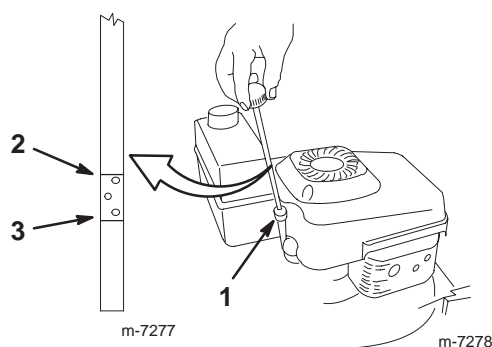

Figure 7
Before each use, ensure that the oil level is between the Add and Full marks on the dipstick (Fig. 7).
2. Clean around the dipstick (Fig. 7).
6. Read the oil level on the dipstick (Fig. 7).